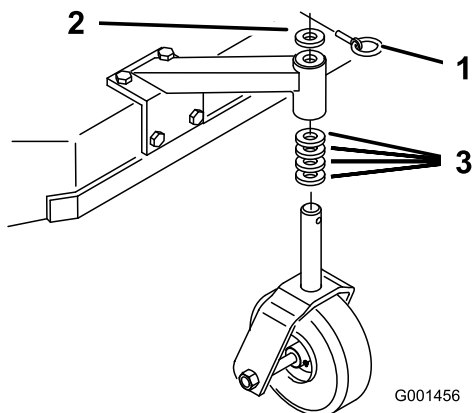

Figure 20
1. Using the Height-of-Cut Chart, adjust the caster spacers to match with the axle hole selected (Figure 20).
2. Remove the latch pin, slide the caster from the support, and change the spacers (Figure 20).
3. Install the caster in the support and insert the latch pin (Figure 20).